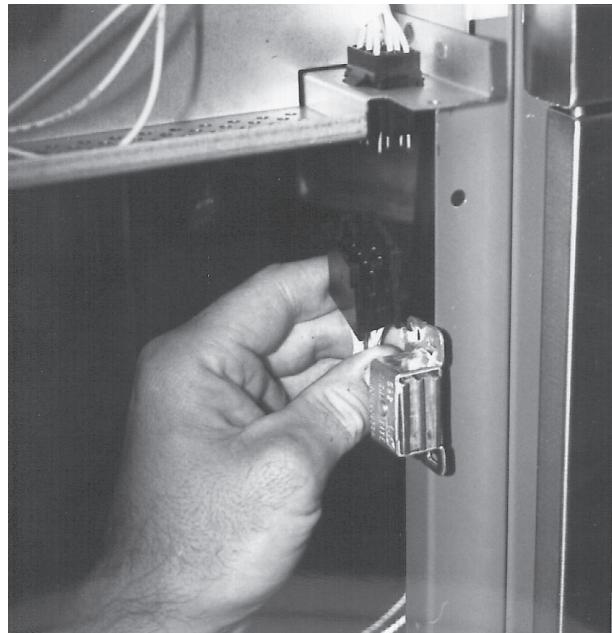

Fig. 28
2. Open cooker door and disengage wire harness located below the control housing to the right side of the cooker. (Fig. 28)